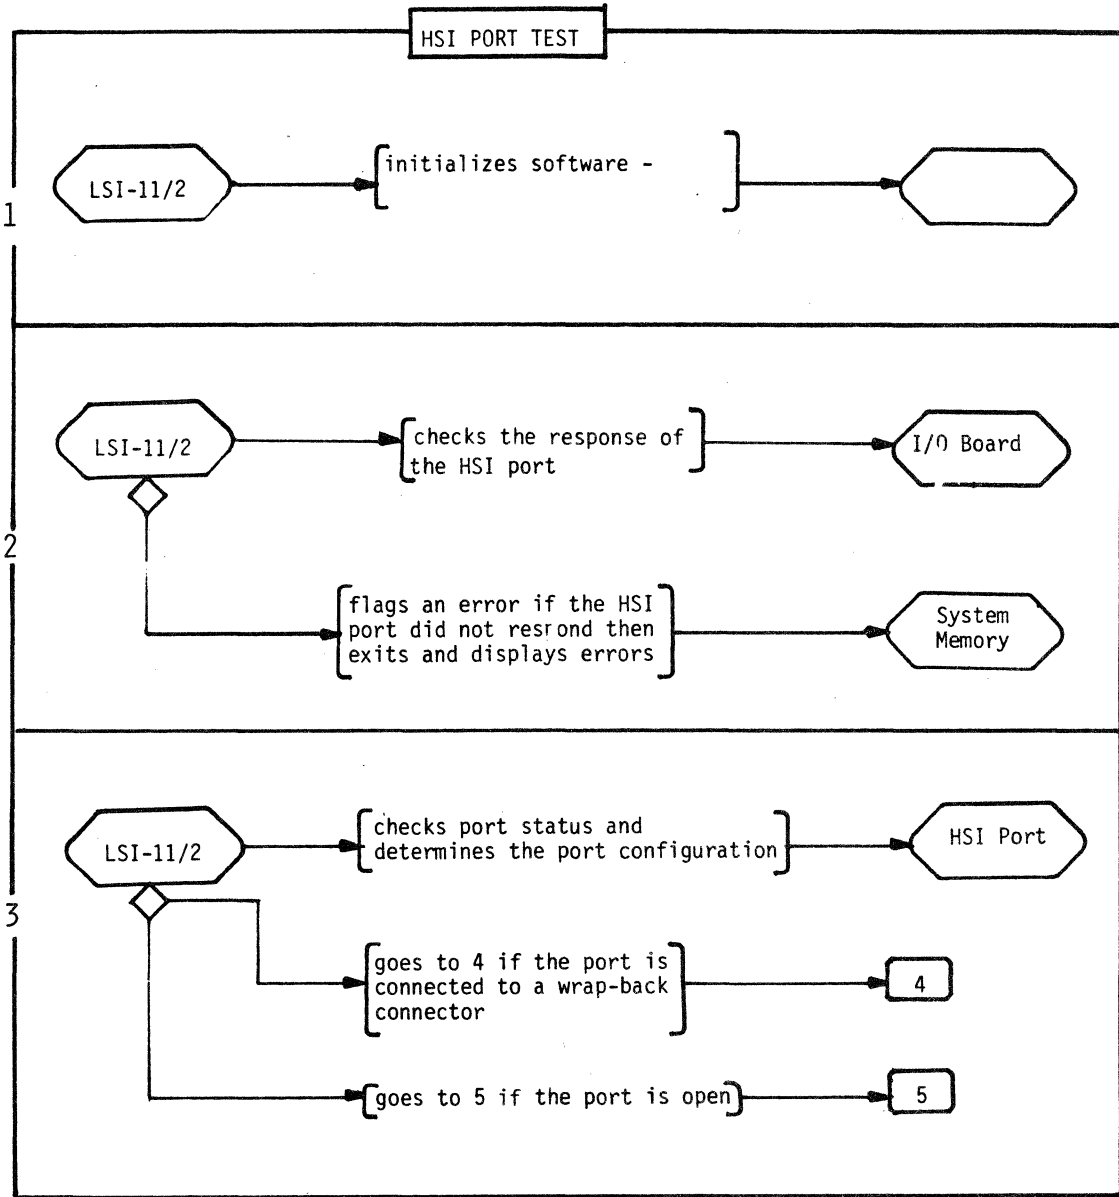

Fig. 4-19. HSI port test.
1. INITIALIZE TEST (Fig. 4-19). The test initializes the software.